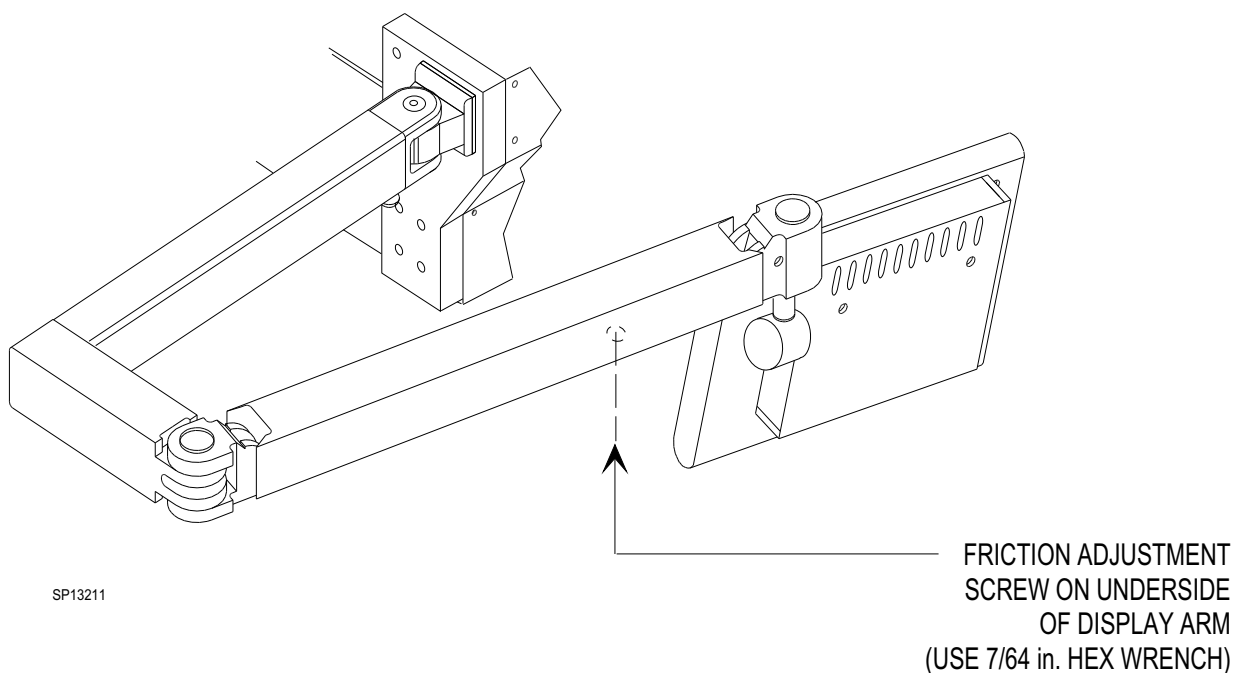

Figure 11: DISPLAY ARM ADJUSTMENT
41. Loosen the friction adjustment screw on the underside of the display arm (no more than one turn). (It may be necessary to raise or lower the arm to align the screw with the access hole.) See Figure 11.